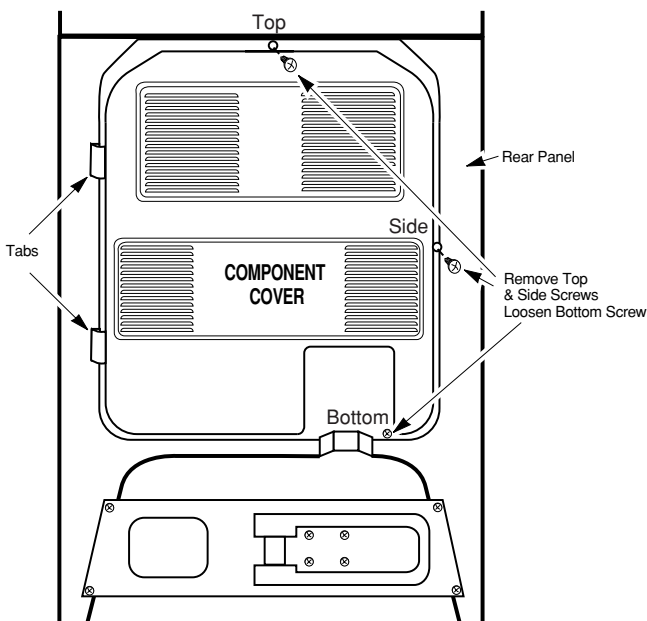

Figure 4-13
3. Remove the top and side screws from the component cover on the rear panel and loosen the bottom screw, then remove the cover (see Figure 4-13).